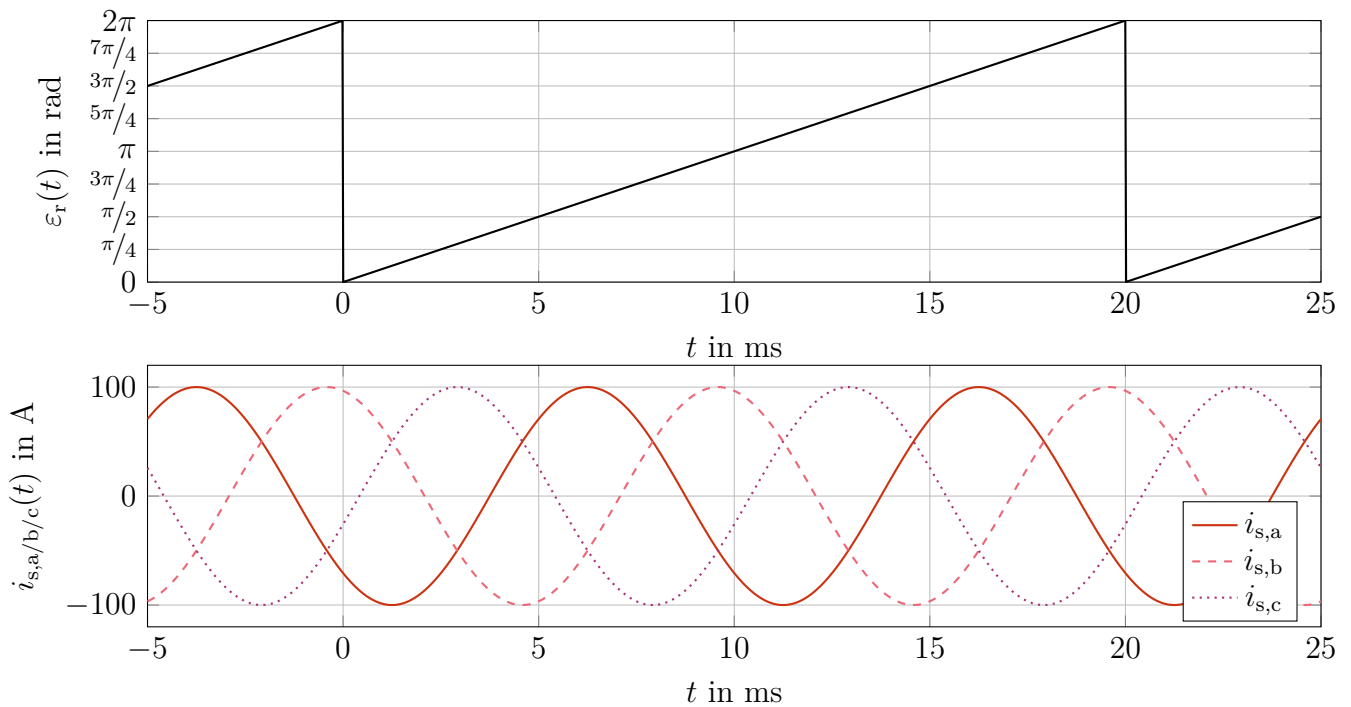

Fig. 4: Measured mechanical rotor angle  $\varepsilon_r(t)$  and three-phase stator currents  $i_{s,a}(t)$ ,  $i_{s,b}(t)$ ,  $i_{s,c}(t)$ .
Fig. 4 shows the mechanical rotor angle  $\varepsilon_r(t)$  and the three-phase stator currents  $i_{s,a}(t)$ ,  $i_{s,b}(t)$ ,  $i_{s,c}(t)$  of a permanent magnet synchronous motor (PMSM). The rotor angle sensor is aligned for  $\varepsilon_r = 0$  with the  $a$ -phase winding current vector. Assume steady-state operation (constant speed) and a symmetric star-connected stator (zero-sequence-free currents). The PMSM parameters are given in Tab. 2. Neglect iron losses, friction/windage, and converter losses. Consider only stator copper losses via  $R_s$ .
4.1 Determine the pole pair number  $p$  as well as the mechanical and electrical rotational frequencies  $f_r$  and  $f_{r,el}$  from Fig. 4. [3 Points]
4.2 Determine the electrical load angle  $\theta$  from Fig. 4, i.e., the angle between the rotor flux linkage and the stator current space vector. [2 Points]